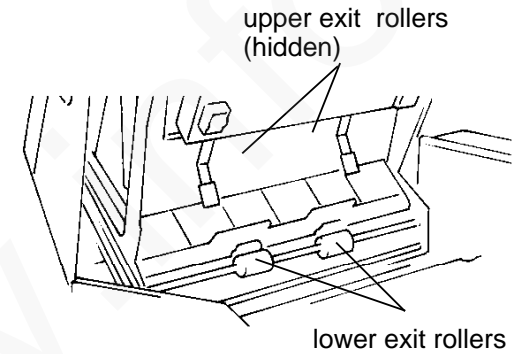

Figure 5. Printer Exit Rollers
- the lower exit rollers (Figure 5), and
- upper exit rollers (Figure 5), (Clean the upper exit rollers only if a problem is suspected or that area is disassembled during the call.)